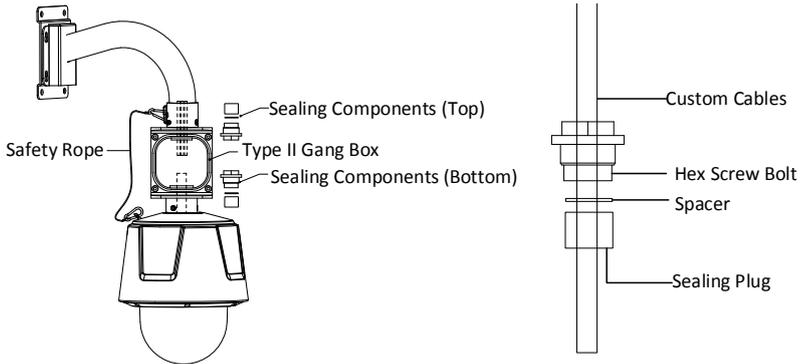

Figure 2-19 Assemble the Type II Gang Box with the Speed Dome
- 4) Insert the sealing components into the gang box in order, as shown in Figure 2-19.